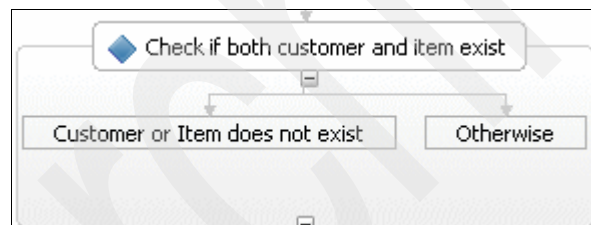

Figure 3-31 Choice activity with Otherwise
13. Next, add an Otherwise element to the Choice activity (Figure 3-31):